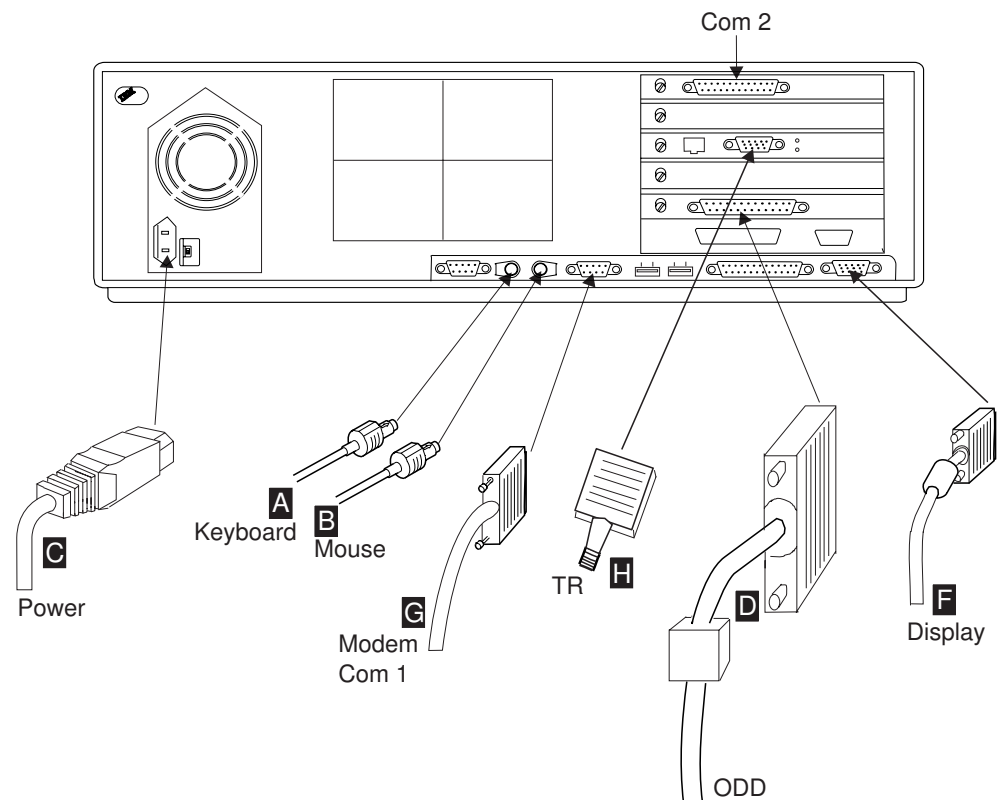

Figure 26. Cable Locations
**Connecting the SP Type 7585** (see Figure 26 on page 23):